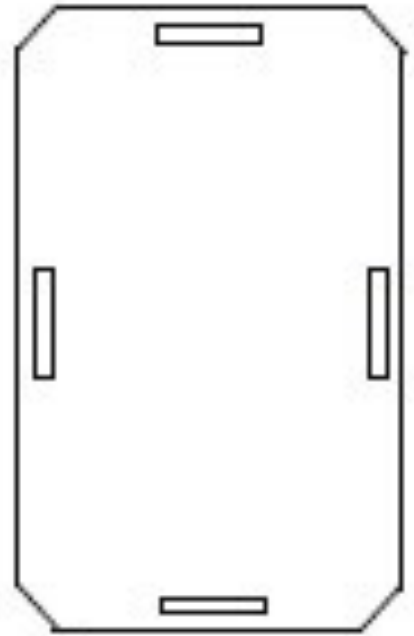
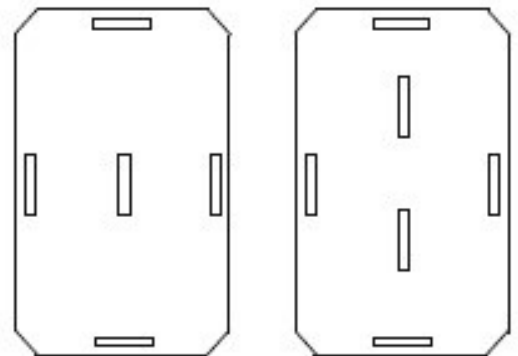

Fig. 4
Fig. 5
- 3) The number of tray supports is determined by the size of the tray and the weight of the objects. The trays should remain rigid and not bend or buckle when loaded with objects and placed within the box. The size of the tray and weight of the objects determines the number of tray supports needed as well as the type of support needed. Small trays should have for supports at the edge (Fig 4); medium trays should have four edge supports with one to two supports in the center (Fig. 5) and large trays should have four to six edge supports with two to